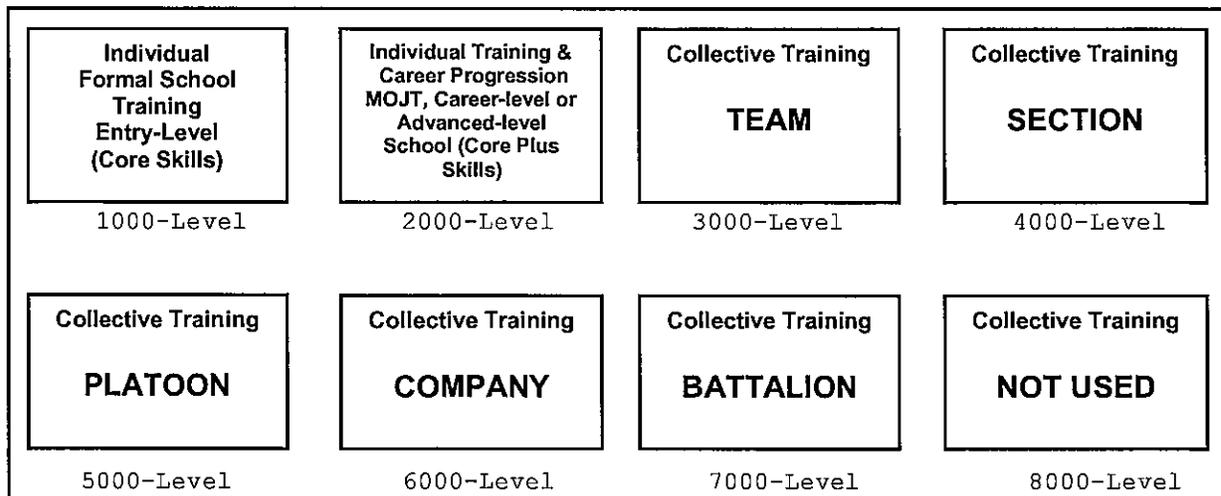

Figure. 1-1 T&R Event Levels
- c. Third 4 characters indicate the unit size and supported unit, if applicable (1000 through 9000), and sequence. Figure 1-1 shows the relationship of unit size to event code. NOTE: The titles for the various
(1) Grouping. Categorizing events with the use of a recognizable code makes the type of skill or capability being referenced fairly obvious. Examples include: PAT for patrolling events, DEF for events in the defense, FSPT for events related to fire support, etc. There is no special significance to the functional areas, but they should be intuitive to make it as easy as possible for the T&R user to find events. When organizing the T&R manual, functional areas are alphabetized then the associated events are numbered. The events will be numbered based upon the introduction of each new functional area, allowing up to "999" events. For example: if there are seven Administrative events 4431 occupational field, then the events should start 4431-ADMN-1001 and run through 1007. Next, the Bulk Fuel events, BUFL should start at 4431-BUFL-1001.
(2) Sequencing. A numerical code is assigned to each individual (1000-2000-level) or collective (3000-9000-level) training event. The first number identifies the size of the unit performing the event, as depicted in figure 1-1. The second number is available for T&R Manuals with collective events that support those in other manuals to identify the echelon of unit being supported by a particular collective event. If a collective event is supported by other events or is performed in general support without regard to echelon, then a zero "0" will be utilized as the second number. For example: 0231-TGT-3801 would refer to an event conducted by a four Marine Targeting Cell supporting a Regiment or Group, 0231-TGT-3001 would represent an event the Targeting Cell does in support of any sized unit. The event would not be labeled 0231-TGT-8001 because that would imply that a regiment sized targeting unit was performing some task. This is not possible, since no intelligence unit organizes in a unit larger than a Battalion. EXCEPTION: Events that relate to staff planning, to the conduct of a command operations center or to staff level decision making processes will be numbered according to the level of the unit to which the staff belongs. For example: an infantry battalion staff conducting planning for an offensive attack would be labeled as INF-PLAN-7001 even though the entire battalion is not actively involved in the planning of the operation. T&R event sequence numbers that